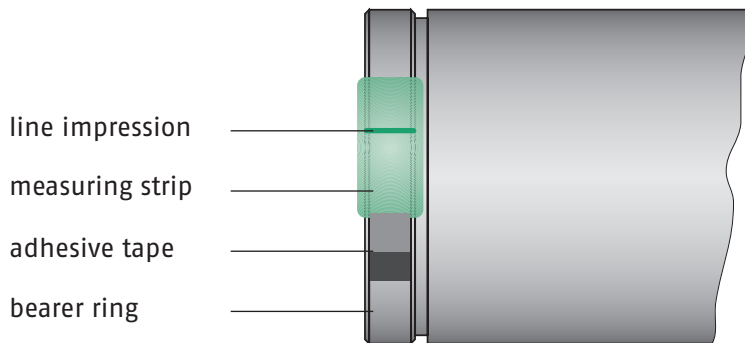

figure 2a: Alignment of the measuring strip for "Line check"
Check type 2: „Line check“ (figure 2a and 2b)
- Fix the measuring strip on the bearer ring with the attached adhesive tape (preferably on side 1 and side 2 simultaneously and in the action area of the cylinder channel) in such a way that the bearer impressions will be centred and in rectangular alignment to the edge of the strip (see figure 2a).